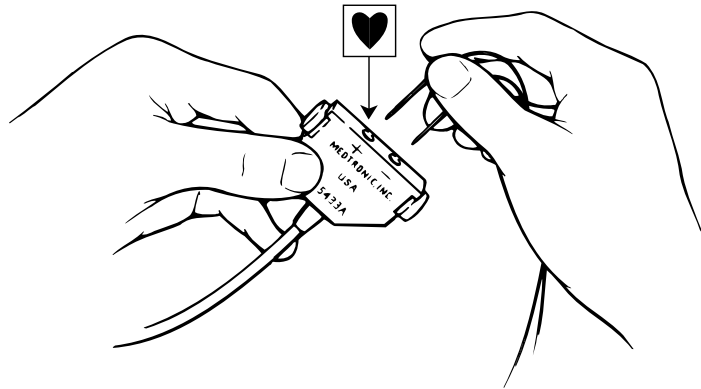

Figure 9-3. Connecting the pacing lead system to the Model 5433A or 5433V patient cable receptacles.
2. Insert the lead connector pins into the patient cable receptacles as shown (see Figure 9-3).